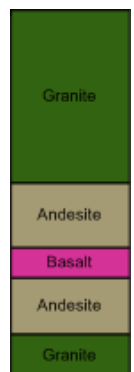

Figure 1.179 – The Display labels and colors in the zone bar log.
3. To display the name of the lithological layer in each zone on the zone bar, change the *Show Label* option to *Show Label With Fill*. The labels are added to the display, fig. 1.179.